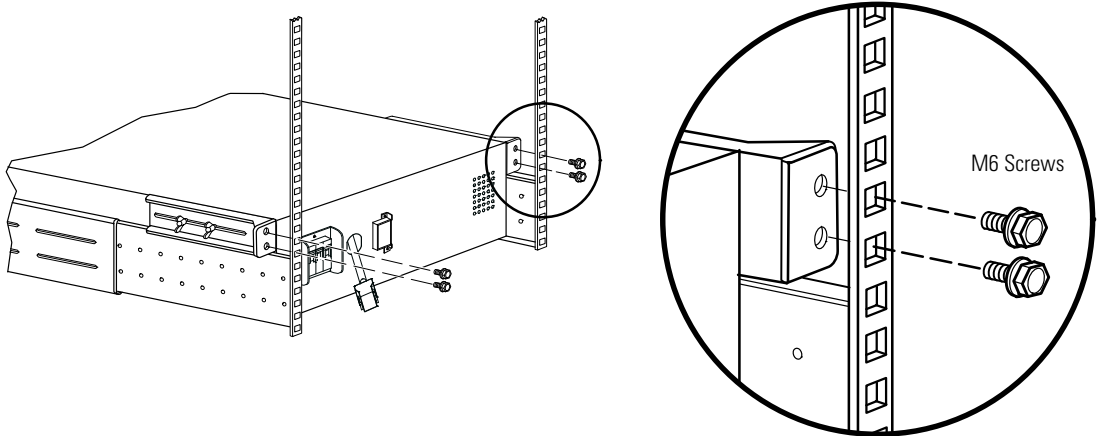

Figure 10. Securing the Optional EBM Seismic Mounting Brackets
16. If the optional seismic mounting brackets are installed, secure the brackets on the EBM to the rack using four M6 machine screws as shown in Figure 10.